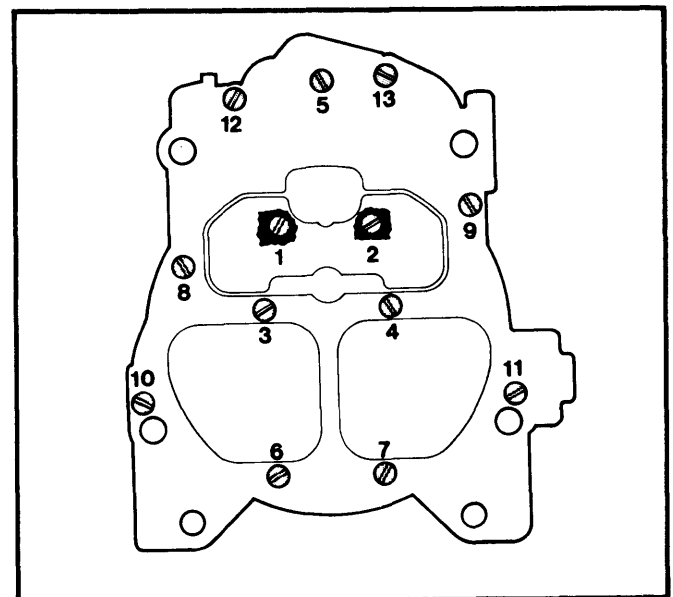

Fig. 15 Air Horn Screw Tightening Sequence
7) Install air horn screws and tighten evenly, securely, and in sequence shown in Fig. 15.